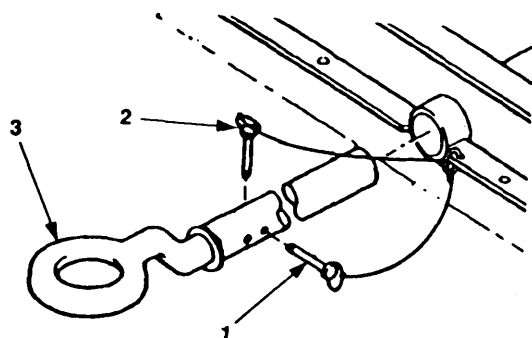

Figure 4-69. Tow Bar Maintenance.
- a. Remove retaining pin (figure 4-69, 1).
- b. Remove anchor pin (2).
- c. Remove tow bar (3).
- a. Install tow bar (3) and align anchor pin holes.
- b. Install anchor pin (2) and retaining pin (1).